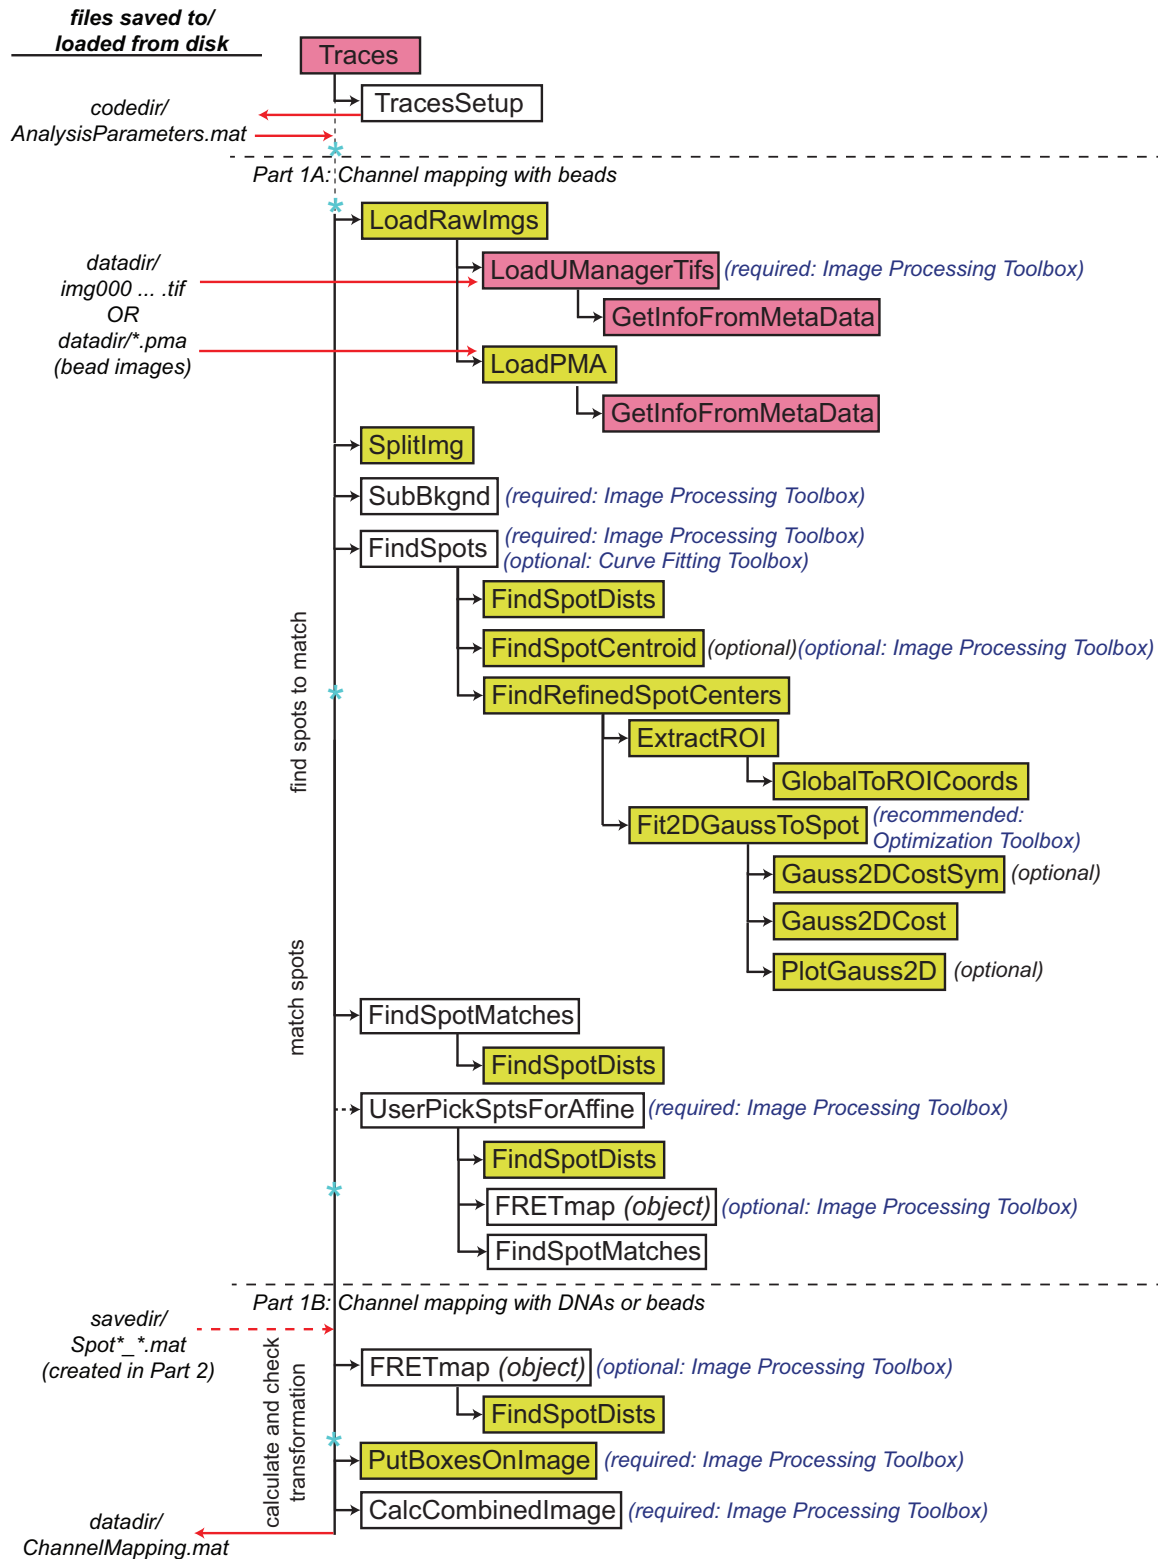

Figure 2: Call graph of the functions for calculating a channel mapping.
- The function *LoadRawImgs* assumes the file and directory structure created by Micro-Manager (summarized in Fig. 1); if you use something other than Micro-Manager to acquire data, and want to use this suite out-of-the-box, you will have to reorganize your data into the directory structure that *LoadRawImgs* and *Traces* recognize. Alternatively, you can modify *LoadRawImgs* and its dependences (see Figs. 2 and 3 below), and some sections of the main *Traces.m* function, to recognize your data structure
Details of how to run each module, and of what each module does to the data, are discussed in the next section. Figures 2 and 3 show call graphs that diagram the functions in this analysis suite that perform each module, with any required or optional Matlab toolboxes noted to the right of each function. Functions in colored boxes are “tools” that are or could be called by multiple functions; pink are highly specific to our microscope setup (and, along with the functions in white boxes, can be found in the “core” subdirectory), yellow should be more general (and can be found in the “tools” subdirectory). Blue asterisks indicate interactive sections requiring user input; red arrows indicate files saved to or loaded from disk (dashed lines indicate optional pathways based on user input).
There is one function that is included in this suite but not listed in Figs 2 and 3, because it is not called by `Traces` directly. This function is “`ConvertTovbFRETInput.m`,” in the “extras” subdirectory, and converts any saved traces (see Sec. 3.2.5 below) to an input format recognized by the vbFRET analysis software for doing hidden Markov analyses of FRET data [1].
*NOTE: You don’t need to press enter after making a selection—for example, to go forward one spot, just press “.”, no enter needed. Any time you enter something into the command line, however, you do need to press enter—for example, if you select “g” to go to a particular spot, you will be prompted to enter the spot number in the command line, after which you will need to press enter. You need to make all selections with Fig. 2 current—if you don’t, you’ll notice you’ll just type stuff into the command line and nothing will happen ...*
(7) What is saved to disk when you select the “s” option in the GUI: When you select “s” for a spot, a new file will be created in the save directory called “Spot<movienum>\_<spotnum>.mat” (or if you select “s” for a spot for which a file has already been created, you will overwrite the previous file with a new one). This file contains: